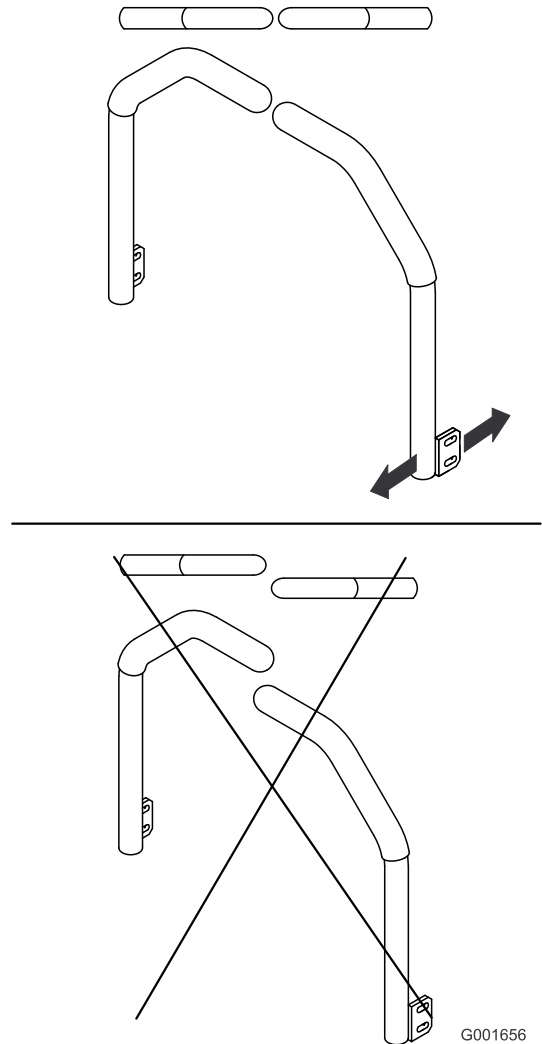

Figure 67
5. Adjust the control levers so that they line up (Figure 67) and tighten the bolts, securing the levers to the posts.